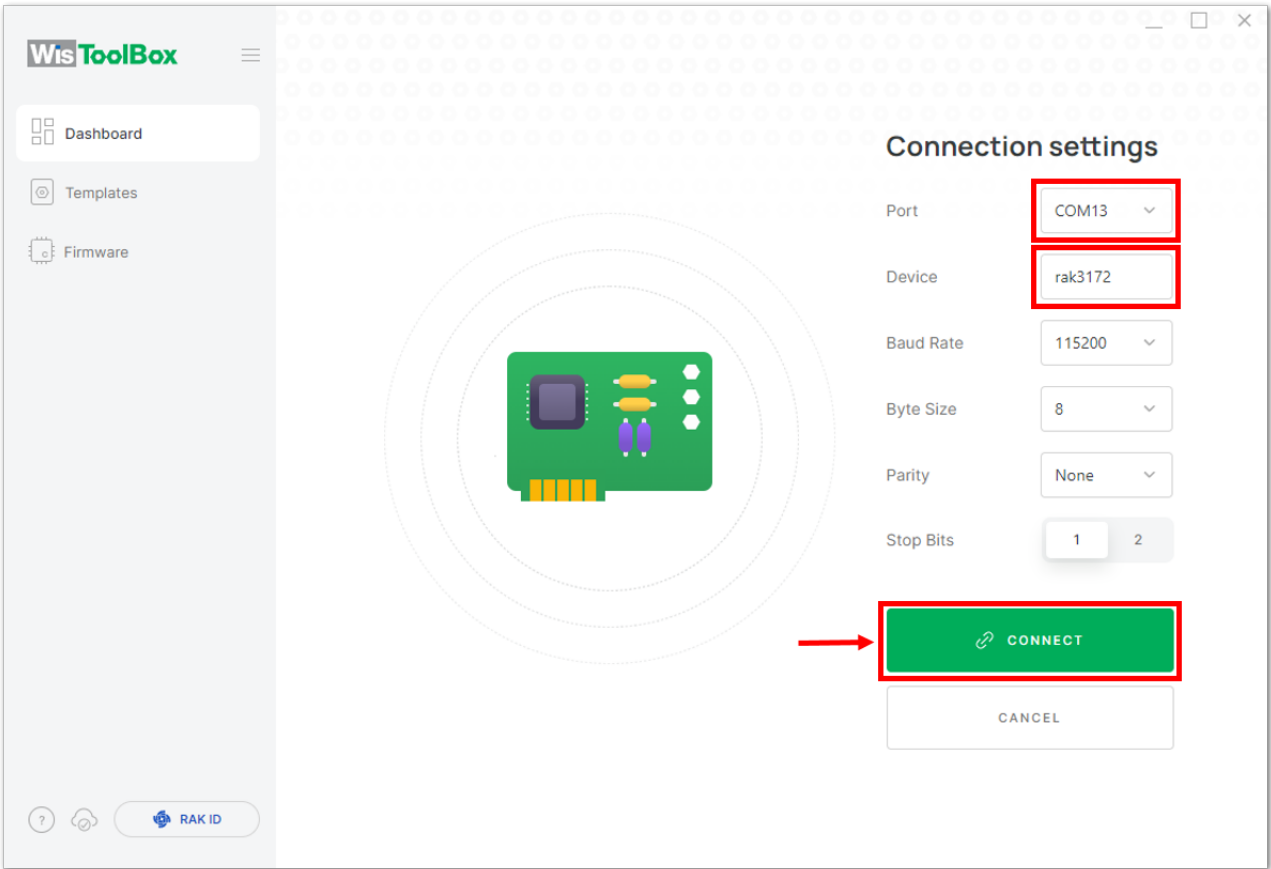

Figure 155: Setting up your device
3. Then select your target port where your **RAK3172** is connected. Once recognized, click **CONNECT** as shown in **Figure 155**.